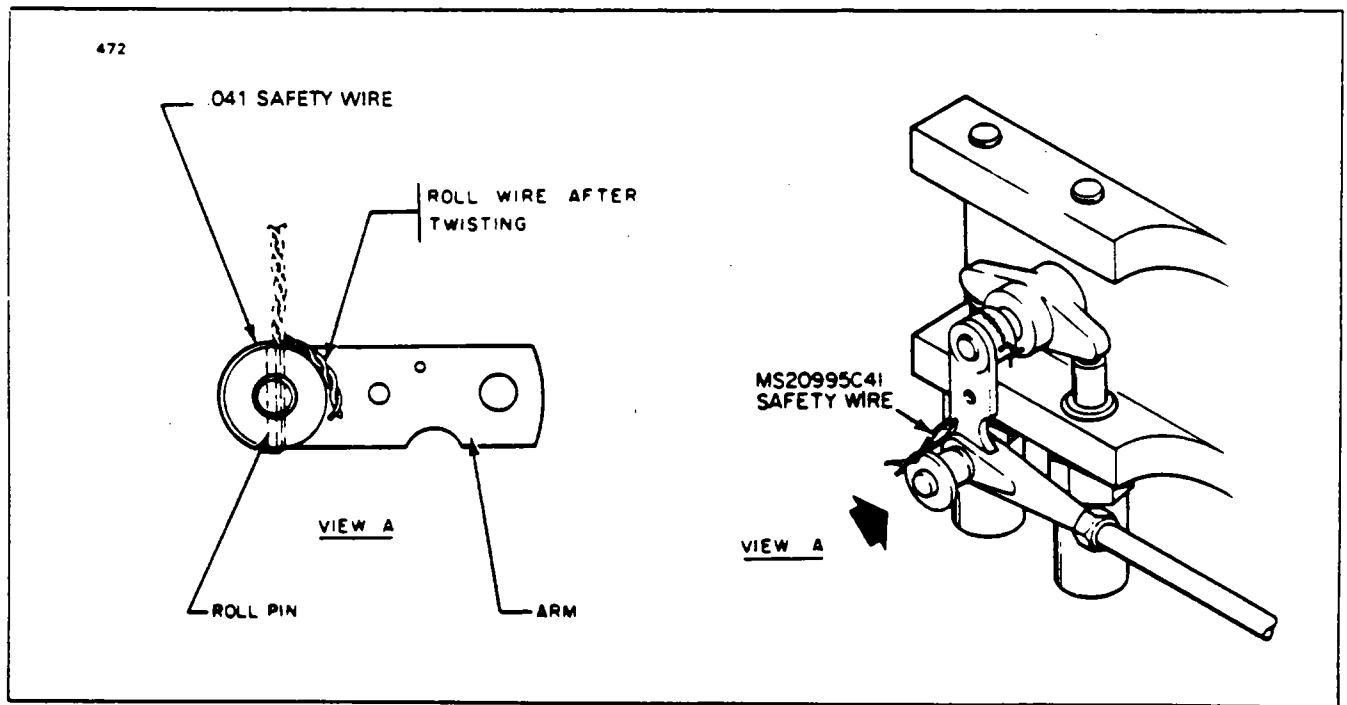

Figure 29-9. Safelying Control Arms
5. Install the Power Pack control arm on the end of the shaft with the arm pointing down. Align the holes between the shaft and the arm assembly and install the roll pin. Install .041 safety wire through the roll pin and around half of the arm. Pull the twisted end of the safety wire around the other half of the arm assembly. (Refer to Figures 29-9 and 29-10.)
10. Safety Power Pack control arm attachment pin as shown in Figure 29-9.